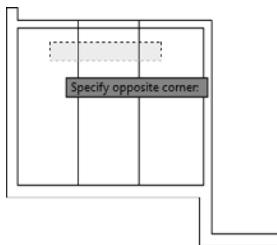

FIGURE 4.36 Using a crossing window in conjunction with the Shift override within the EXTEND command to trim lines
4. With the EXTEND command still active, press and hold the Shift key. Keeping it pressed, select a point to the right side of the bathroom and then another to the left, as shown in Figure 4.36.